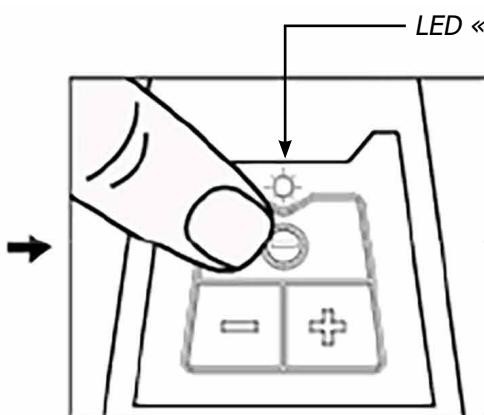

Figure 2
2. Press the power on/off button " Θ " on the button plate to switch on the sander. The LED indicator shows " flash green " color after sander being switched on. - see figure 2.